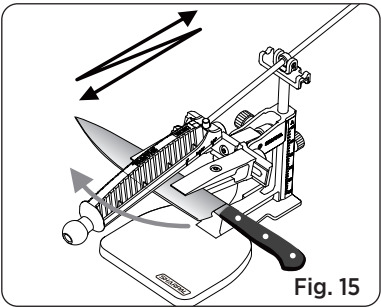

Fig. 15
- 2. Apply light pressure with long, smooth strokes, start at the heel of the blade. Slide the abrasive plate back and forth along the cutting edge towards the tip. Stop at the tip of the blade (See Fig. 15).